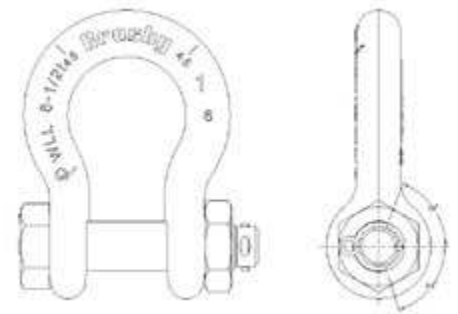

Figure 1
2. The prongs are to be bent in opposite directions around the bolt or pin as shown in Figure 1 below.